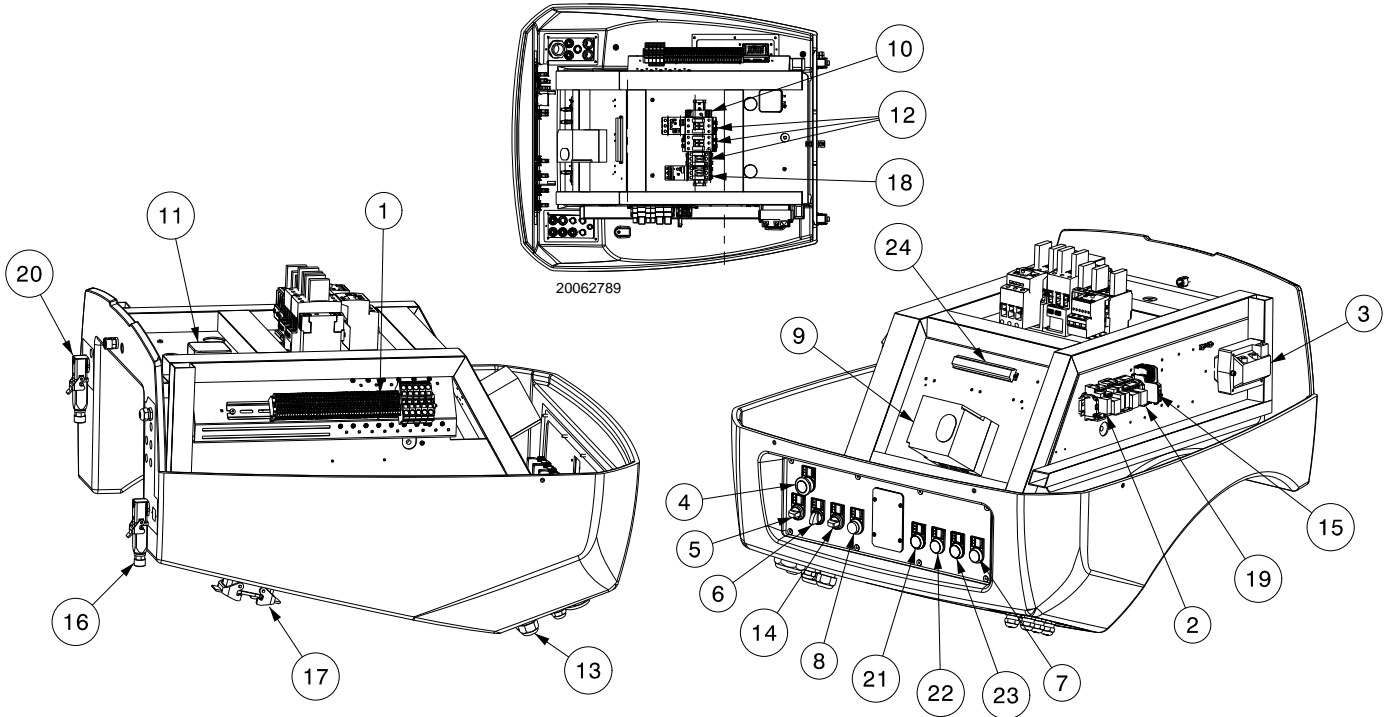

Fig. 5
- **Control box lockout:** if the control box button (red led) 9 (Fig. 5) and the backlit button 8) light up, it indicates that the burner is in lockout. Release by pressing the pushbutton 8).